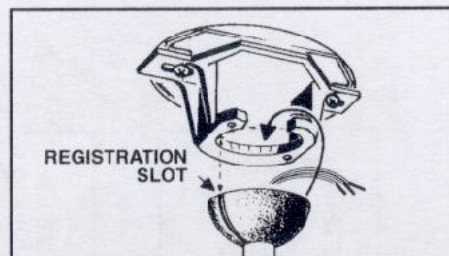

FIG. 10
Step 7. Now lift motor assembly into position and place downrod ball into hanger bracket. Rotate until the check groove has dropped into the registration slot and seats firmly. Rod should not rotate if this is done correctly. (Fig. 10)